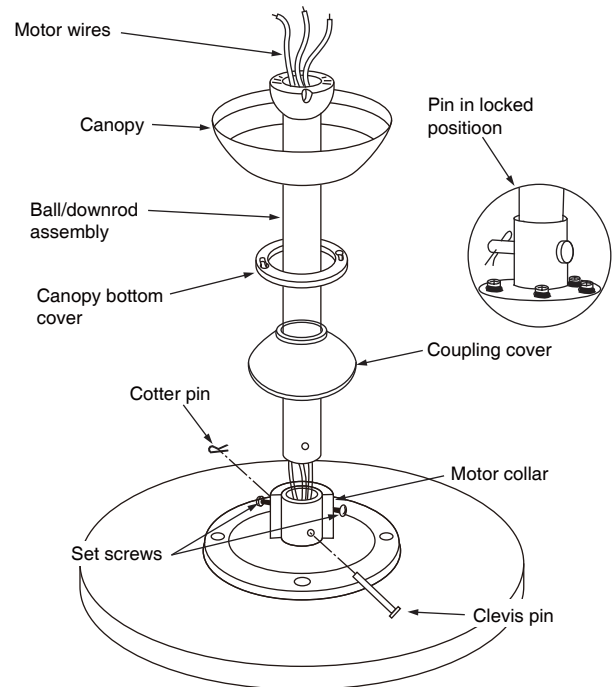

Fig. 5
1. Remove the clevis pin, cotter pin and set screws from the top of the motor assembly. (Fig. 5)
2. Route wires exiting from the top of the fan motor through the coupling cover, canopy cover, canopy and then through the ball/downrod. (Fig. 5)
3. Align the holes at the bottom of the downrod with the holes in the coupling on top of the motor housing (Fig. 5). Carefully insert the clevis pin through the holes in the collar and downrod. Be careful not to jam the clevis pin against the wiring inside the downrod. Insert the cotter pin through the hole near the end of the clevis pin until it snaps into its locked position, as noted in the circle inset in Fig. 5.
4. Tighten two set screws at top of the fan motor collar firmly and evenly. (Fig. 5)